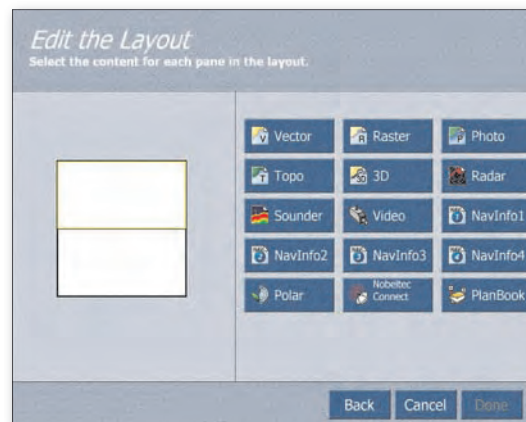

Figure 18.10 - View Manager - Window Pane Types
7. Select the chart type to fill each pane. To fill the active pane (highlighted with a yellow border), make a selection from Vector, Raster, Photo, Topographic, 3D, Radar, Sounder, Video, NavInfo 1-4, Nobeltec Connect, or PlanBook (see Figure 18.10). Repeat until all panes have been assigned a chart type.
Figure 18.10 displays the content available for the window panes in NavView. NavInfo presents the most important system data, such as Course Over Ground (COG), Speed Over Ground (SOG), GPS Data, etc, in a distinct information panel in large-font type. This content allows you to quickly check data provided by hardware sources, system feedback, etc.